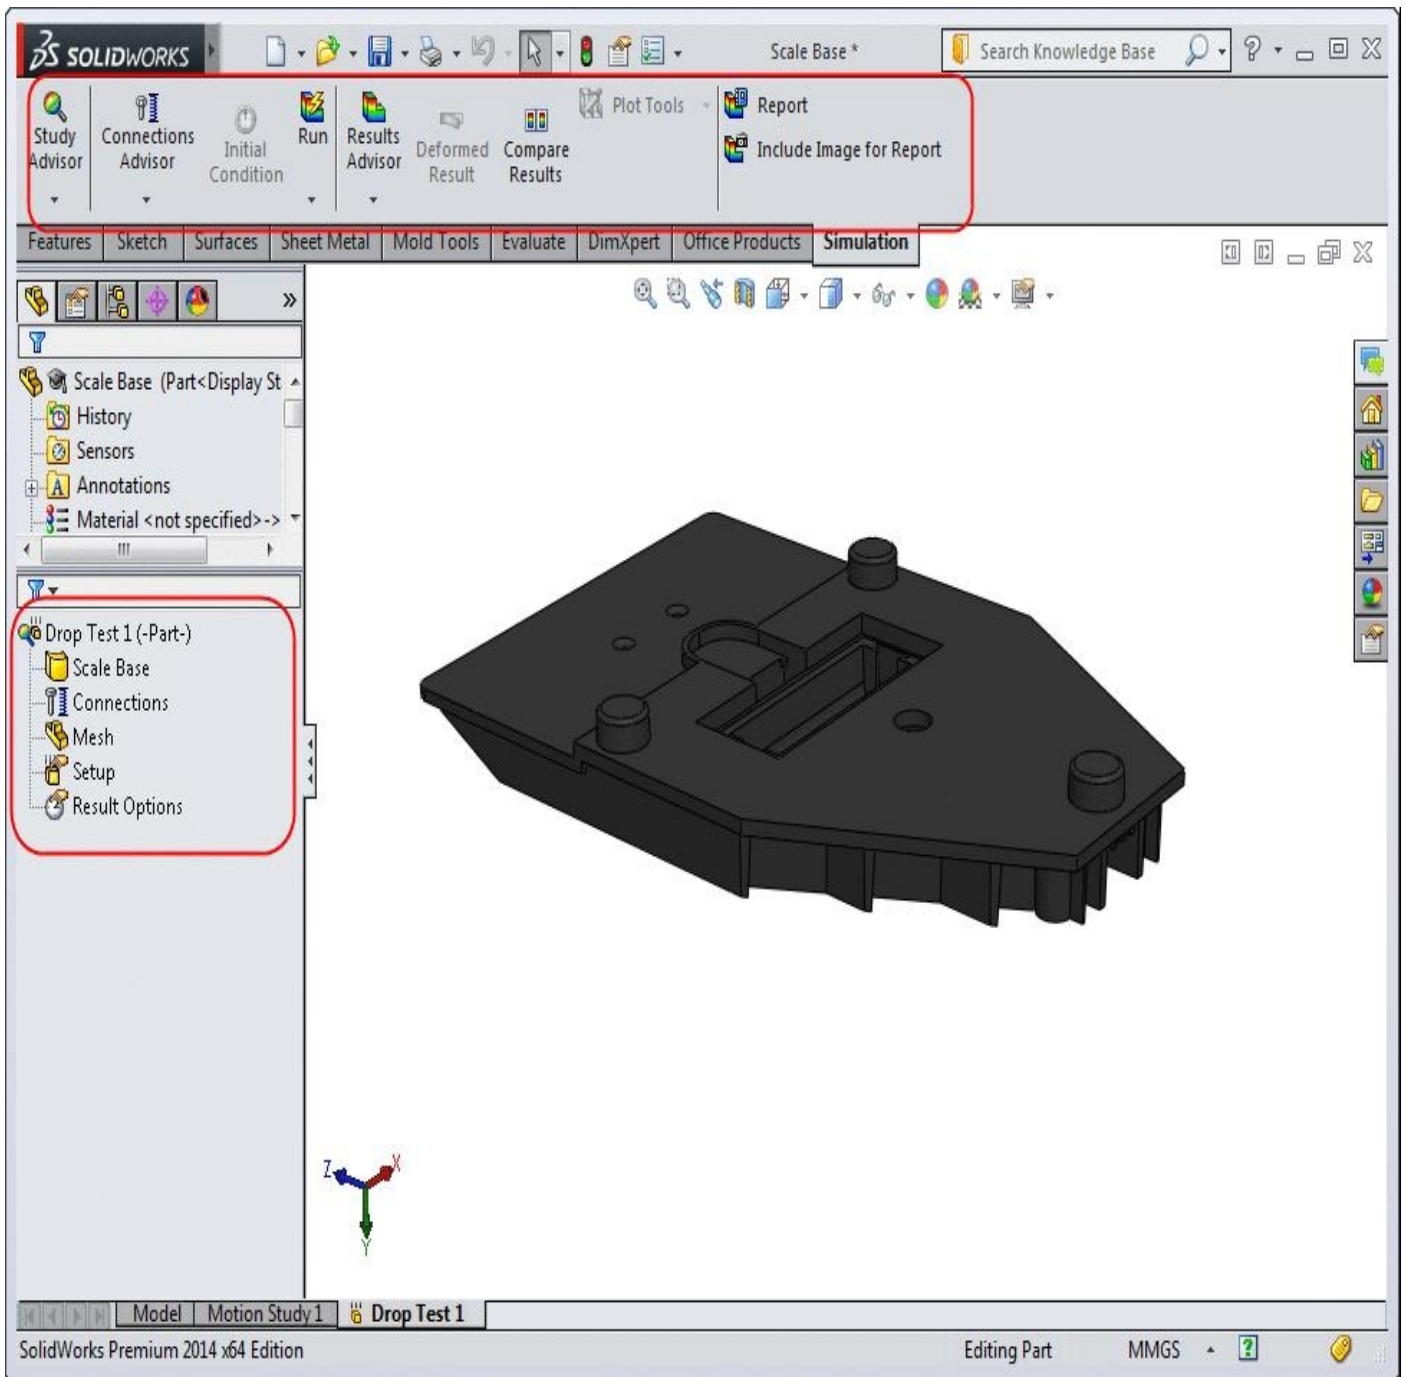

Figure-1. Tools related to drop test
- Click on the **Drop Test** button from the list and click on the **OK** button from the **PropertyManager**. The tools related to drop-test will be displayed; refer to Figure-1.